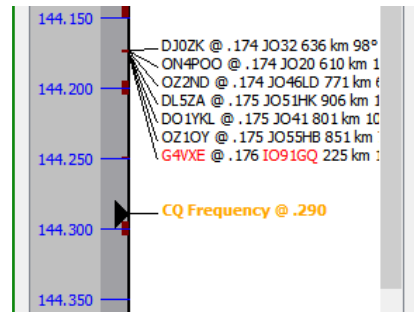

Figure 126 – Run frequency marker
- If operating in Run mode, the current Run frequency is marked on the display¹³⁷ as '**CQ Frequency**', with the fractional frequency appended (see Figure 126); the marker changes colour if the rig moves off the run frequency.